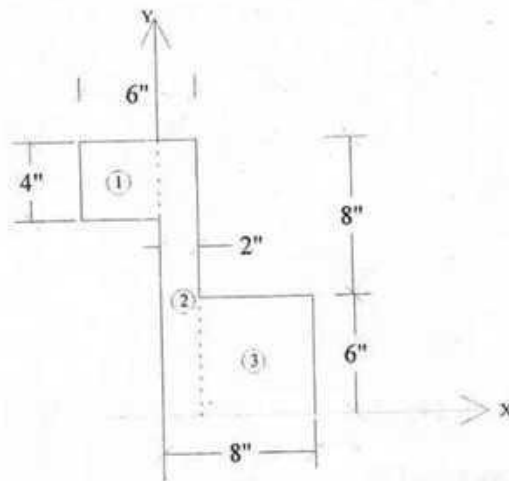

Fig. 10
10. Find the centroidal moment of inertia of area of the section shown in Fig.10.